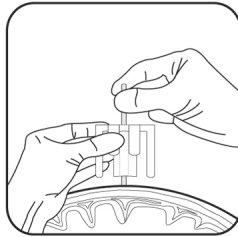

Figure 2: Holding position of Drill Bit Assembly, remove Tripod. Drill hole in skull.
- ⇒ Holding the position of the Drill Assembly, remove the Tripod (Fig. 2).